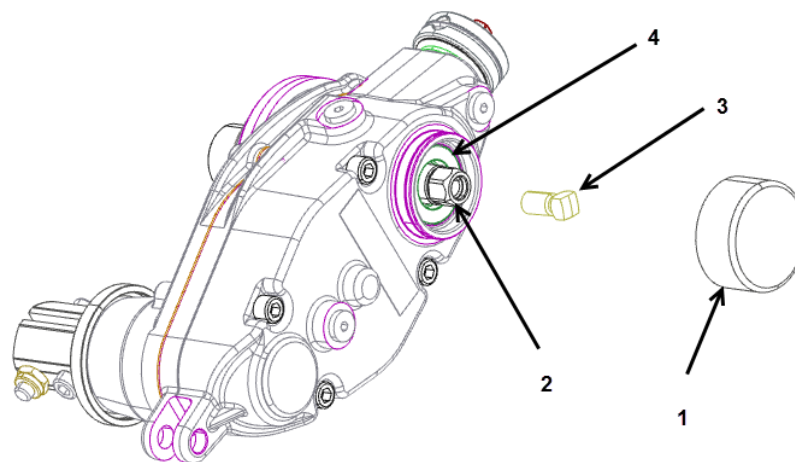

Figure 5
1-803022	Screw, 5/16-18 X 5/8 SQ HD, (Figure 5, Item 3)
137-0902	Cap for non-Rear Roller Brush application. (Figure 5, Item 1)
2. Before applying torque to the hex head (Figure 5, Item 2) to remove groomer drive assembly, install screw, 5/16-18 X 5/8 SQ HD to internal threads of the hex head and torque to 13.5 Nm (120 lbs.-in). Installing screw increases the strength and lessen the possibility of shearing (breaking off) the hex head. (Figure 5)